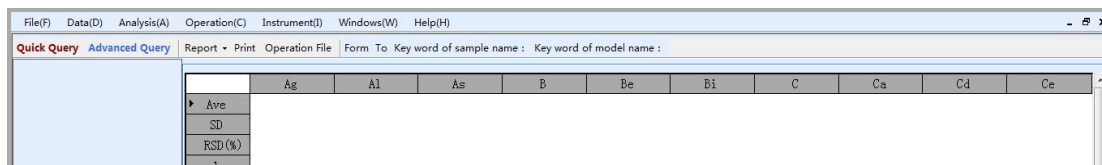

Figure 5-4 Advanced query
Step 2 Click “Advanced Query” to query the historical data according to the time, or print it, as shown in Figure 5-4: